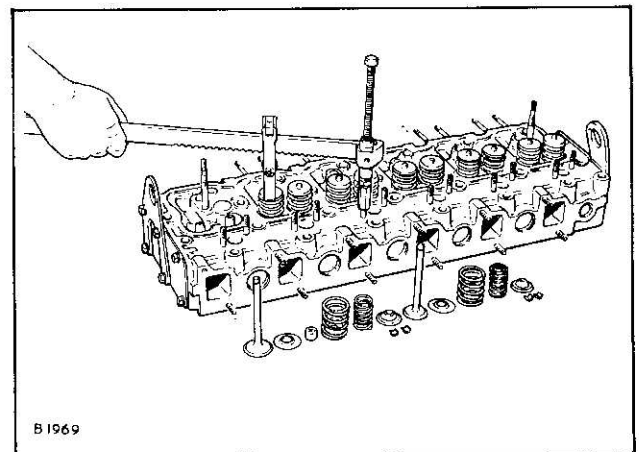

Fig. 3
1. Remove valves, Fig. 3, if valves are to be refitted, they should be suitably marked for re-assembly in their original positions. Note oil defectors fitted on inlet valves only.